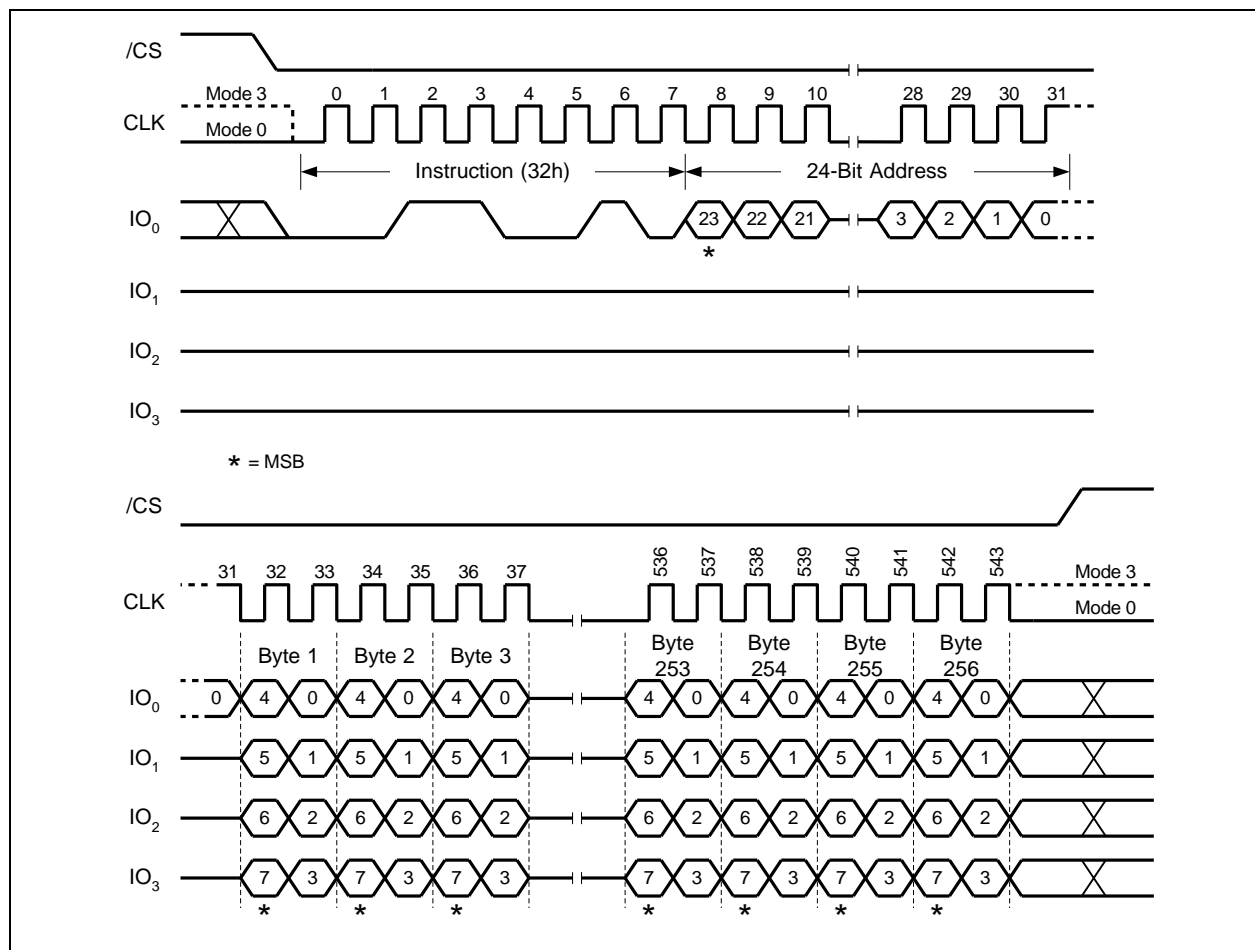

Figure 34. Quad Input Page Program Instruction
To use Quad Page Program the Quad Enable (QE) bit in Status Register-2 must be set to 1. A Write Enable instruction must be executed before the device will accept the Quad Page Program instruction (Status Register-1, WEL=1). The instruction is initiated by driving the /CS pin low then shifting the instruction code "32h" followed by a 24/32-bit address (A23/A31-A0) and at least one data byte, into the IO pins. The /CS pin must be held low for the entire length of the instruction while data is being sent to the device. All other functions of Quad Page Program are identical to standard Page Program. The Quad Page Program instruction sequence is shown in Figure 34.